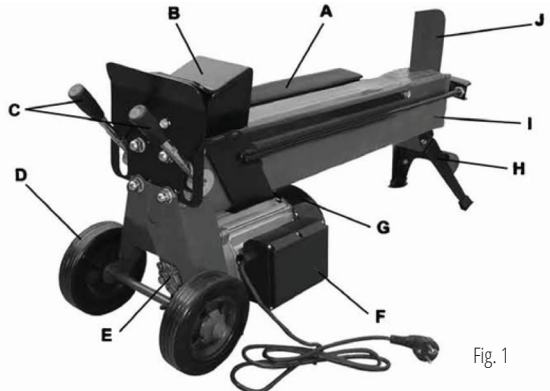

Fig. 1
Check these components according to the following list and Figure 1 below:
5. Always place logs firmly on the main body, lying flat against the log guide plates (Ref A on Fig1). Never attempt to split a log at an angle and make sure the logs will not twist or slip whilst being split.
- Ensure the splitting wedge (Ref J on Fig1) and the log pusher (Ref B on Fig1) will make contact with the log squarely at each end.
6. For reasons of safety the log splitter requires a two-handed operation. Switch on the electric motor using the green starting switch (Ref F on Fig1). Using both hands press down on both operating handles (Ref C on Fig1). The log splitter will compress the log, pushing against the splitting wedge. When the log is split release both handles – this will allow the log pusher to retract.